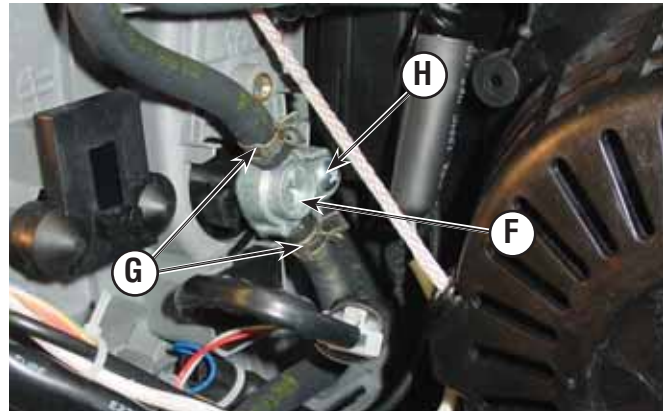

Figure 25
5. Locate fuel valve (**F**, Figure 25) inside of the generator enclosure.